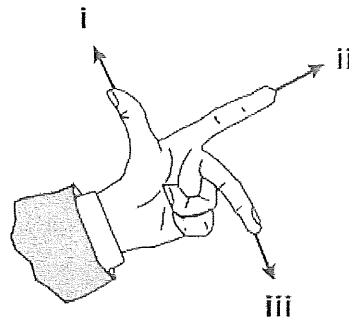
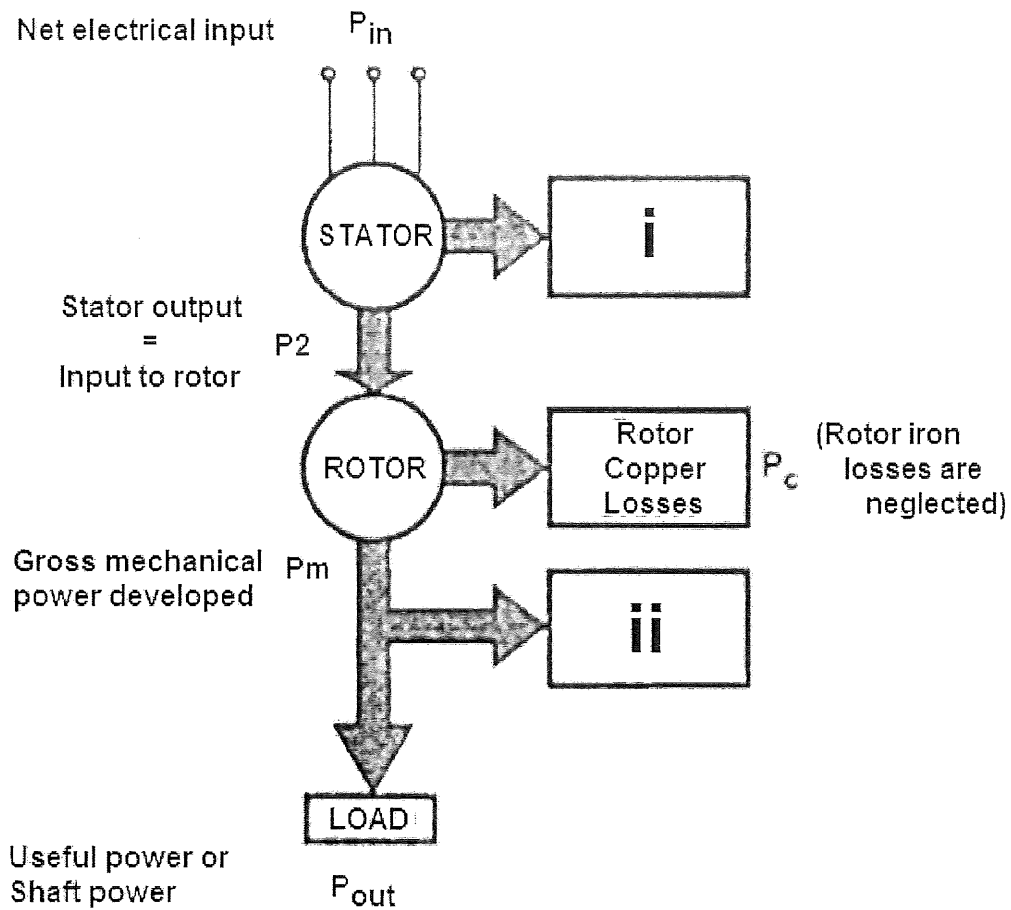

Figure 2
Figure 3
- a) Completes the Left Hand Screw Rule of Figure 2 by stating i, ii & iii. (3 marks)
- d) Completes Figure 2 by stating the losses labeled **i** and **ii** in Figure 3 (2 marks)